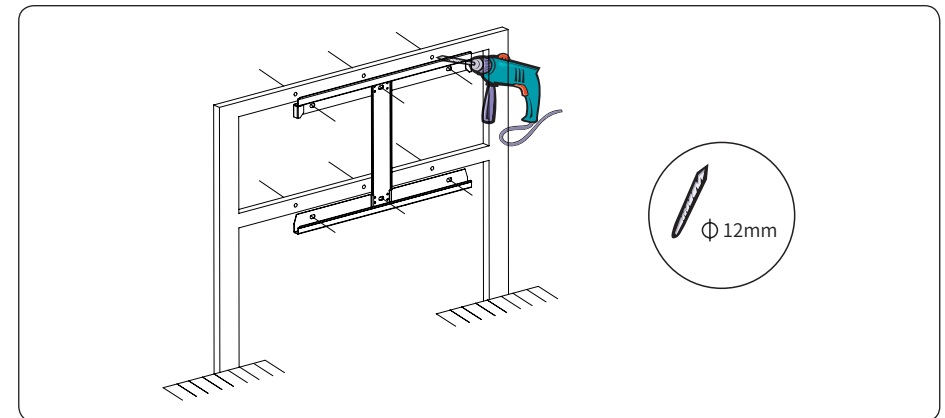

Figure 4-5 Mark the hole position
- 2) Use an electrical driller with 12mm diameter bit to drill 6 holes on the installation bracket. See Figure 4-5 for details: